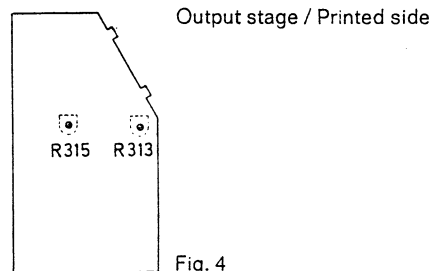

Fig. 4
2.5 R 313/R 315 closed-circuit current of output stage (Fig. 4)